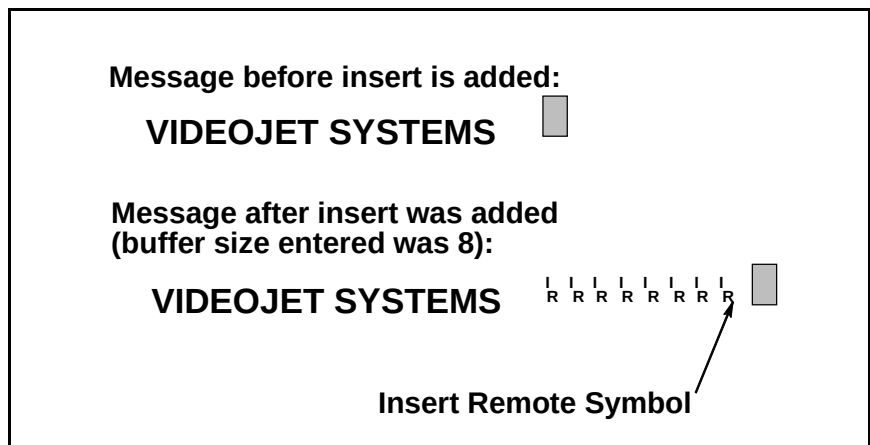

Figure 6-41. Message with a Remote Insert
6. Press **F3** to select <INSERT REMOTE>. The insert will appear in the message as “insert remote symbols.” Refer to Figure 6-41.
An insert remote symbol will appear for each character entered in <BUFFER SIZE>. If the <BUFFER SIZE> option is set to 8, eight insert remote symbols will appear in the message where the remote information will be printed. Refer to Figure 6-41.